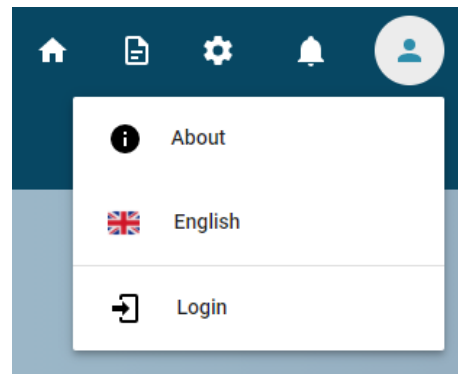
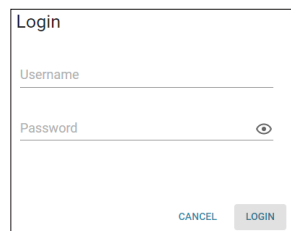

Fig. 6-2: User menu (not logged in)
Fig. 6-11: Login dialog
1. *LOGIN* (see Fig. 6-2 on page 25) opens the login dialog (see Fig. 6-11).